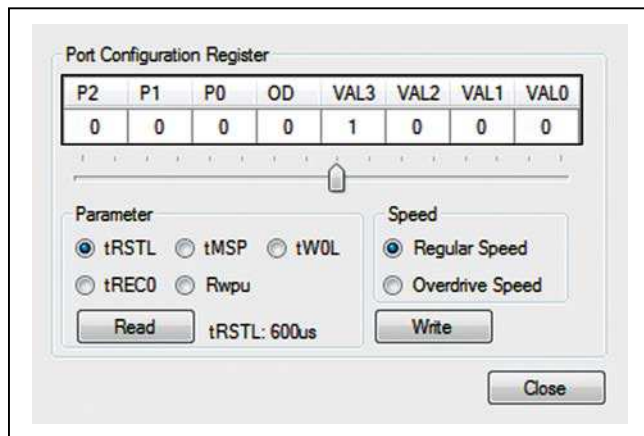

Figure 14. Port Configuration Register
- **Change 1-Wire Timing:** Provides reading of the Port Configuration register and writing of the Adjust 1-Wire Port. The window is shown in Figure 14. Adjustment to any timing parameter shown is done by selecting the timing **Parameter** and **Speed**, adjusting the slider symbol, and clicking on the **Write** button. Verification of the write can be done by clicking on the **Read** button. Exit by clicking on the **Close** button.